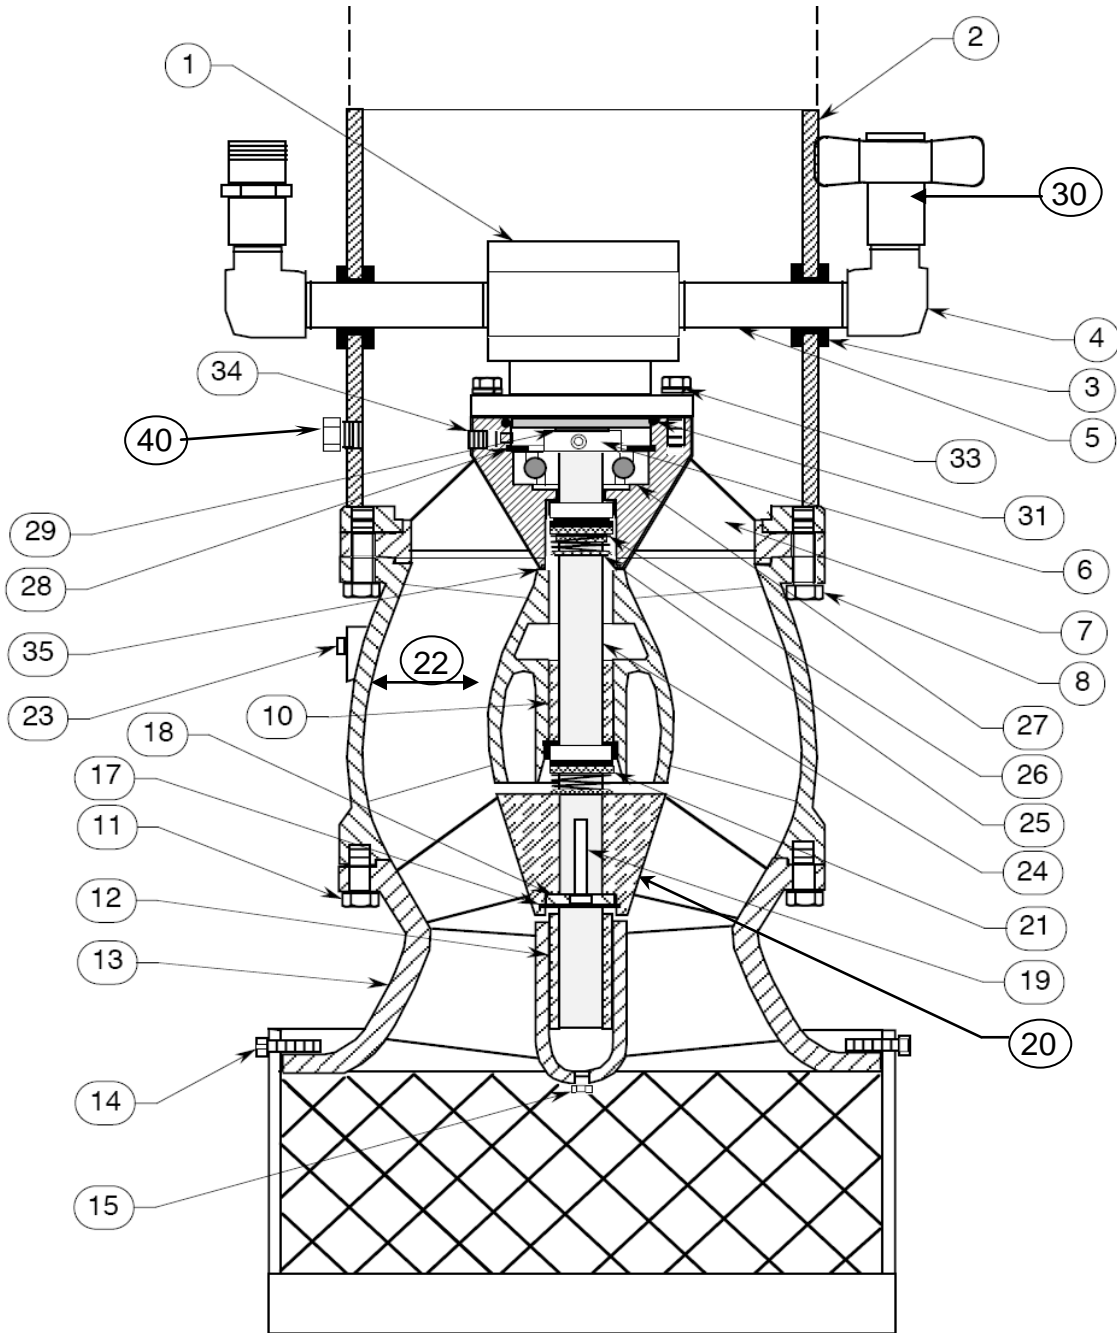

Figure 1: MMP 4 Water Pump
8. Remove Item 40 on Figure 1 to gain access to the bearing housing reservoir fill plug (Item 34 in Figure 1) and item 23 on the discharge bowl, with the water pump in a vertical position.
15. Lube suction bowl bushing at (Item 15 in Figure 1), every 250 operating hours or semi annually which ever occurs first. (Mystic 5496 Marine Grease or equivalent) 1 each - 3/8" NPT grease fitting may be required to perform this operation.